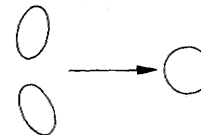

Figure 1-3
- 11) Observe the center of screen and if dots are distorted, adjust the above two magnets for the finest round as Fig. 1-3.
- 15) Confirm the items 11) and 14) by turning GREEN FOCUS VR (FOCUS PACK) clockwise and counterclockwise centering around the best point. When the dot moves, adjust the tracking by repeating items 10) to 14).